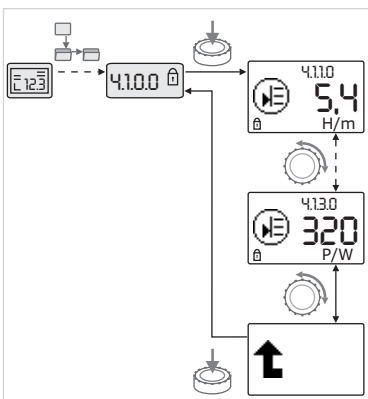

Fig. 44: Calling up information
- Turn the red button to access the "Information" menu elements in the current sub-menu (see Fig. 44). For an explanation of the settings represented by the symbols, see the table in chapter 8.7 "Menu elements reference" on page 99.